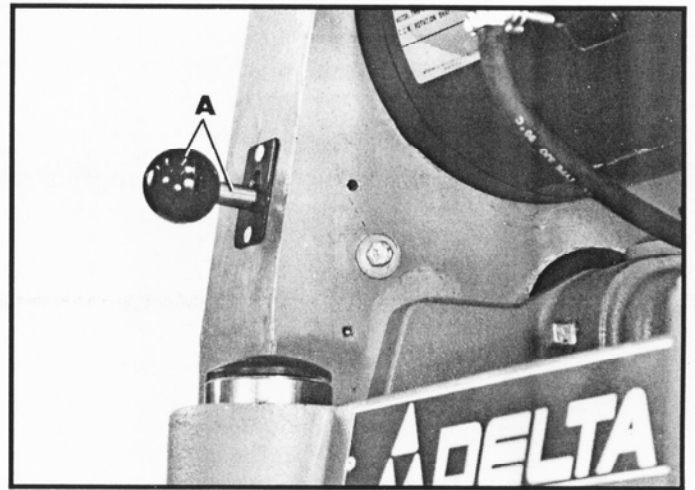

Fig. 25
Your machine is equipped with a spiral serrated infeed roll and a polyurethane outfeed roll. When the feed rolls are engaged, they turn and feed the stock through the planer. The feed rolls slow automatically when the machine is under heavy load giving you the best planing under all conditions. To engage the feed rolls, push in and engage lever (A) Fig. 25. To disengage the feed rolls, lift up and pull out lever (A).